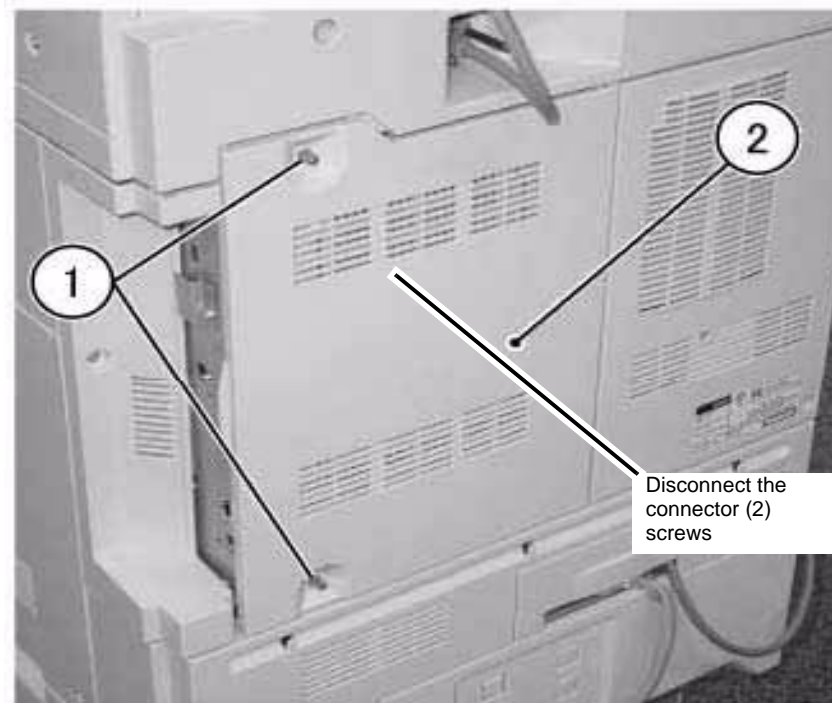

Figure 2 Removing the ESS Cover
3. Remove the ESS Cover Assembly. (Figure 2)